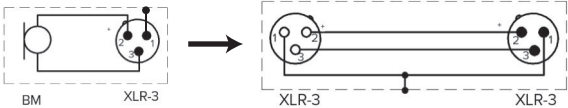

Fig. 7
1. Connect the microphone to the XLR-3 socket of the mixing console, microphone amplifier with the XLR-3 microphone cable (Fig. 7).